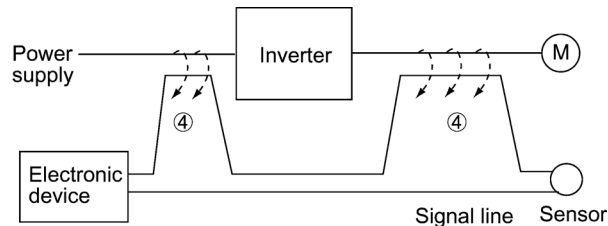
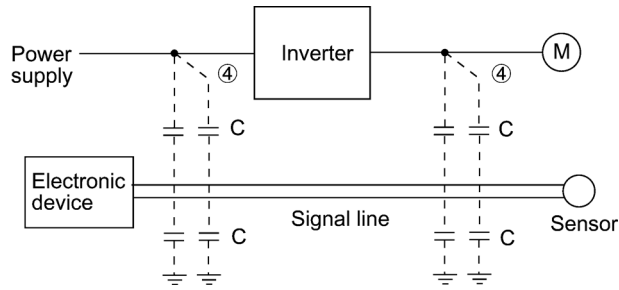

Figure A.4 Electromagnetic Induction Noise
Figure A.5 Electrostatic Induction Noise
(2) Induction noise
When wires or signal lines of peripheral devices are brought close to the wires on the input and output sides of the inverter through which noise current is flowing, noise will be induced into those wires and signal lines of the devices by electromagnetic induction (Figure A.4) or electrostatic induction (Figure A.5). This is called "induction noise" ④.